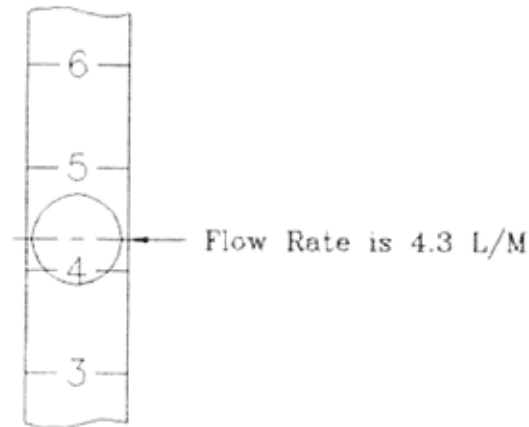

Figure 32
- Mixture Dial** - controls setting of oxygen concentration of gas mixture. Adjustment of this control does not affect total flow rate. (See fig 32).
4. Nitrous Oxide and Oxygen Flowmeters - the amount of gas flowing is indicated by reading the position of the midpoint (maximum diameter) of the ball. (See fig 32).